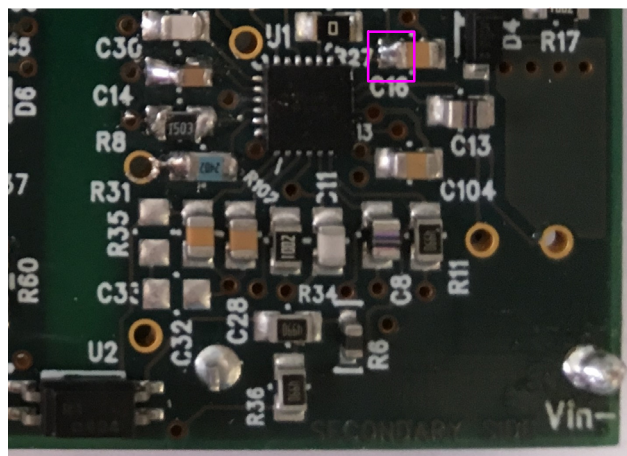
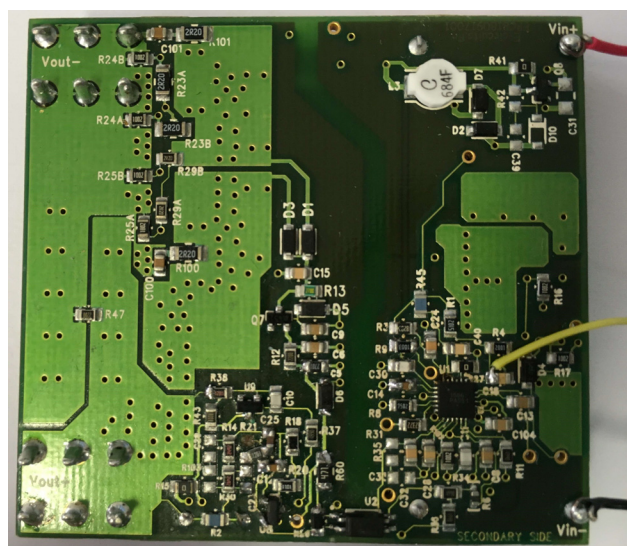

Figure 3. UVLO on NCP1566EVB
Figure 4. NCP1566EVB with Wire Connections
Step 1: Solder a wire on the undervoltage (UVLO) control connection of the NCP1566 DC/DC converter EVB: e.g. on the pad of capacitor C16 (highlighted by a rectangle in Figure 3 and at the end of the yellow wire in the Figure 4).